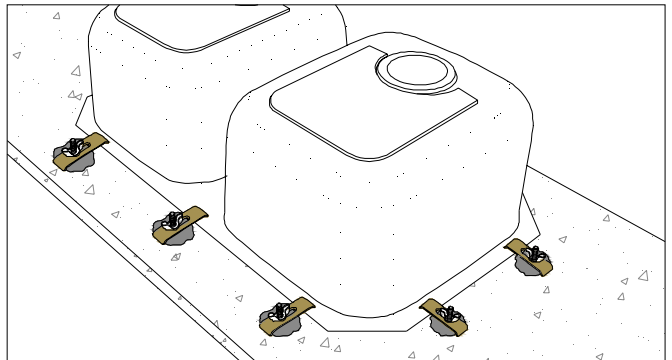

Figure 36C
- Check the alignment of the sink with the cutout. Then securely tighten the clamps. (FIG. 36C)